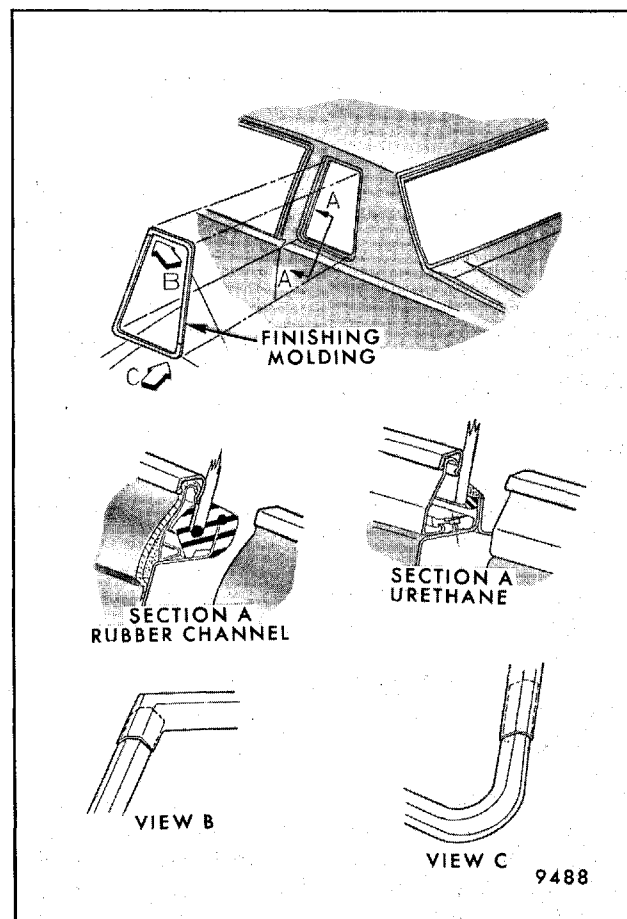

Fig. 11-14 - Outside Loaded Quarter Window - "C" Styles Typical
4. On outside loaded glass with vinyl roof cover, the glass and channel are removed outboard which requires prior removal of quarter window reveal moldings and sealing material between the channel and glass opening (Fig. 11-14).